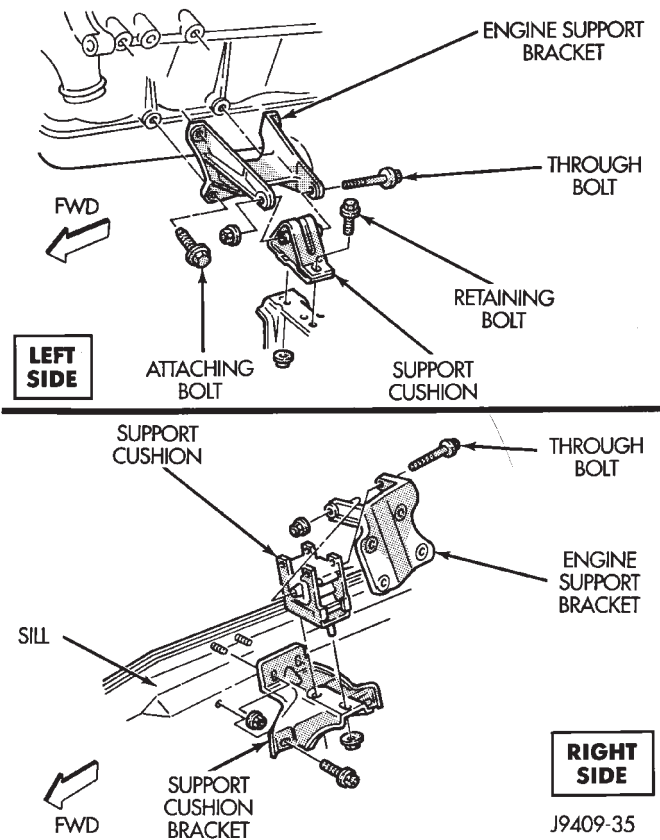
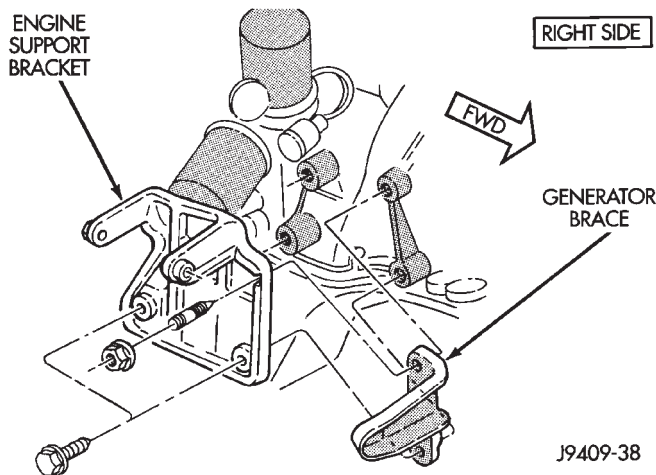

Fig. 6 Front Mounts—XJ Vehicles
Fig. 7 Engine Support Bracket—Right Side
- (1) Disconnect negative cable from battery.
- (2) Raise the vehicle.
- (3) Support the engine.
- (4) Remove through bolt nut (Fig. 6). DO NOT remove the through bolt.
- (5) Remove the retaining bolts and nuts from the support cushions (Fig. 6).
- (6) Remove the through bolt.
- (7) Remove the support cushions.
- (1) If the engine support bracket was removed, position the LEFT bracket (Fig. 6) and the RIGHT bracket with generator brace (Fig. 7) onto the cylinder block. Install the bolts and stud nuts.
- (a) RIGHT SIDE (Fig. 7)—Tighten the bolts to 61 N·m (45 ft. lbs.) torque. Tighten the stud nuts to 46 N·m (34 ft. lbs.) torque.
- (b) LEFT SIDE (Fig. 6)—Tighten the bolts to 61 N·m (45 ft. lbs.) torque.
- (2) If the support cushion brackets were removed, position the brackets onto the lower front sill (Figs. 6 and 8). Install the bolts and stud nuts. Tighten the bolts to 54 N·m (40 ft. lbs.) torque and the stud nuts to 41 N·m (30 ft. lbs.) torque.
- (3) Place the support cushions onto the support cushion brackets (Fig. 6). Tighten the right support cushion nuts to 65 N·m (48 ft. lbs.) torque. Tighten the left support cushion bolt and nut to 41 N·m (30 ft. lbs.) torque.
- (4) Install the through bolt and the retaining nut (Fig. 6). Tighten the through bolt nut to 65 N·m (48 ft. lbs.) torque.
- (5) Remove the engine support.
- (6) Lower the vehicle.
- (7) Connect negative cable to battery.